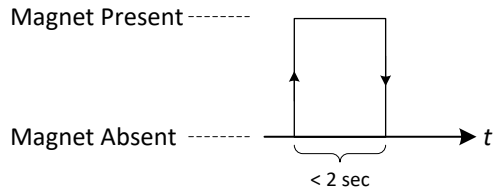

Figure 13: Agriculture Sensor magnetic UL-triggering pattern
The magnetic pattern in this case is not user configurable and involves attaching and taking away the magnet to and from the magnet sign at the top of the enclosure once, all in less than 2 sec, as shown in Figure 13. It is important to note here that mistakenly holding the magnet attached to the module for more than 3 sec may trigger a module reset, as explained in item 1 above.